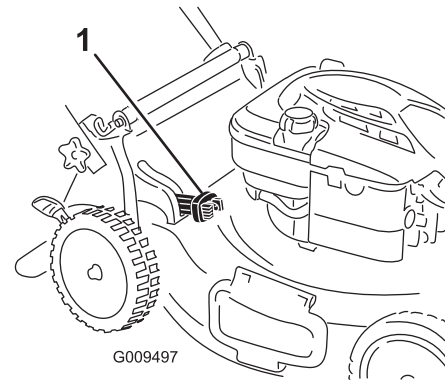

Figure 19
- For bagging the grass and leaf clippings, press the button on the bag-on-demand lever, and move the lever forward until the button on the lever pops up (Figure 19).